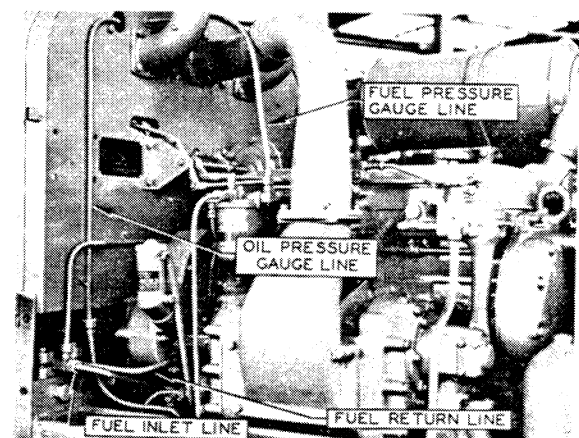

FIG. 4
top of fuel filter, care must be taken not to twist flexible hose. Fig. 4.
12. Disconnect oil pressure gauge line at union at rear right side of motor. Fig. 4.